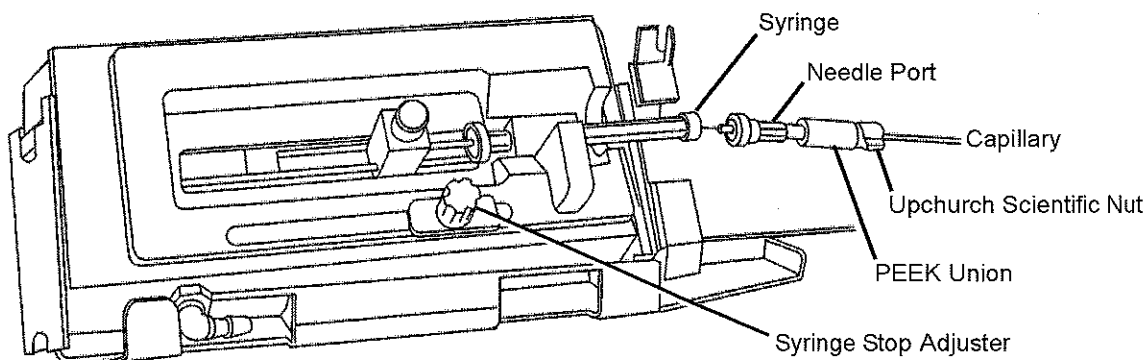

Figure B-1 Syringe Pump
2. Mount the syringe onto the pump (Figure B-1).